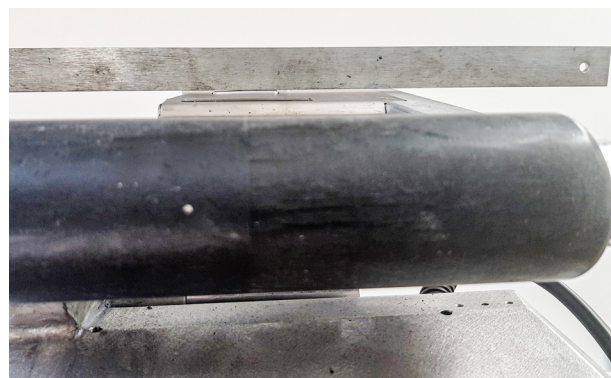

fig. 3
- Check the lower contact support system (remove assembly) that it has not been damaged. Place a ruler or similar straight object on the lower contact support system. By using the rear roller as a guide, you will see if the support system has been bent or damaged. The ruler and rear roller must be parallel (see fig. 3). If this part is damaged, then it must be replaced. The picture below shows how you can check this.